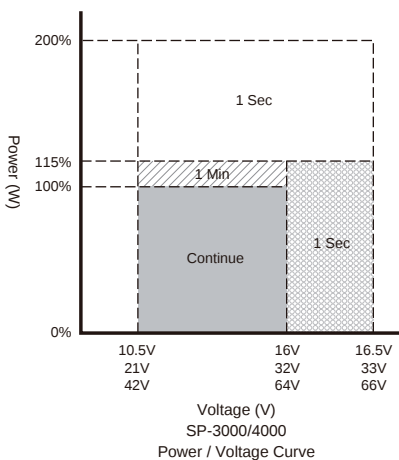
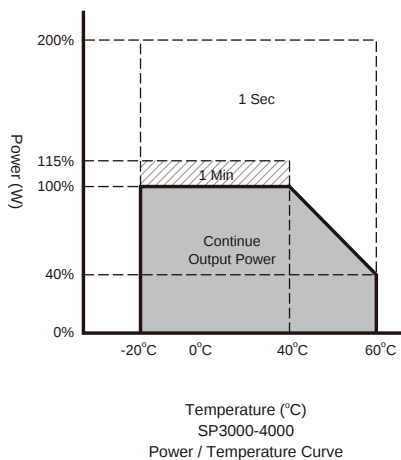

Figure 3. SP-3000/4000
Figure 4. SP-3000/4000
- ① Voltage range : Please refer to Figure 3
- ② Normal load Condition : Vin =12.5V/25V/50V, Vo=200/220/230/240 VAC 80% Full load (PF=1.0)
- ③ Operating temperature : Please refer to Figure 4
- ④ **Warning** : This is a class A product. In a domestic environment this product may cause radio interference in which case the user may be required to take adequate measures.
① Voltage range : Please refer to Figure 3
② Normal load Condition : Vin =12.5V/25V/50V, Vo=100/110/115/120 VAC 80% Full load (PF=1.0)
③ Operating temperature : Please refer to Figure 4
④ **Warning** : This is a class A product. In a domestic environment this product may cause radio interference in which case the user may be required to take adequate measures.
- ② Normal load Condition : Vin =25V/50V, Vo=200/220/230/240 VAC 80% Full load (PF=1.0)